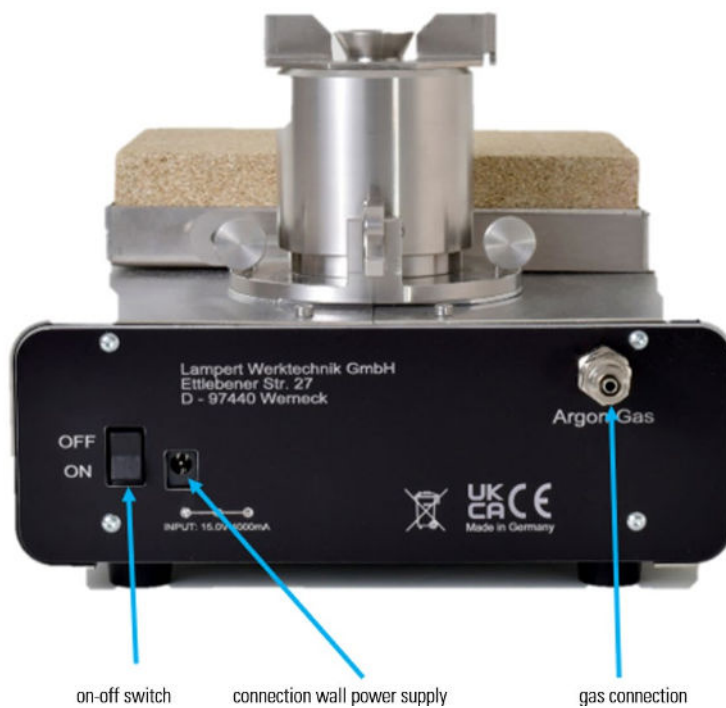

Fig. 4.2 Rear view of the FUSION casting centrifuge with connections and control elements
Plug the connection cable of the supplied mains adapter into the 24 V connection socket (p. 17, fig. 4.2) on the rear of the unit. Then plug the mains plug into a socket with the appropriate mains voltage.
- Connect the supplied gas hose to the "Argon gas" connection on the rear of the unit (p. 17, fig. 4.2) and to the flow regulator on the gas cylinder. Tighten the union nuts on the flow regulator and on the FUSION by hand without using tools (check before each use).